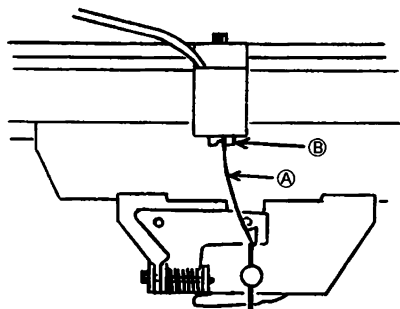

Fig. 96
The Jam sensor is a kind of switch, when the Part ① is forced to come in contact with the part ② by the lever on the reverse side of the coupler, the pulse to stop the motor immediately will be made and sent to the C.P.U.. (Refer to Fig. 96)